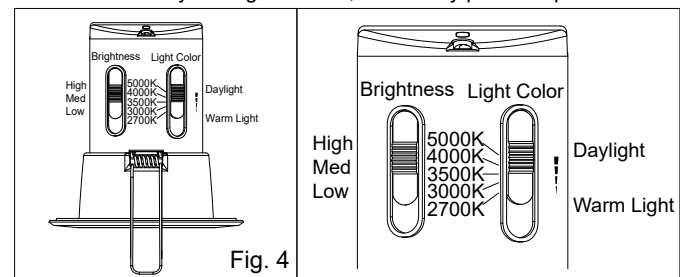

Fig. 4
- Adjust brightness and light color settings to the desired level (Fig. 4).